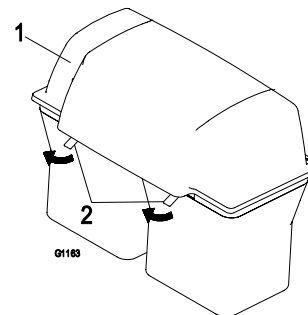

Figure 11
2. Pull up on both bagger retainer latches until they unlock from the bag frame (Figure 11). Open (raise) the hood.